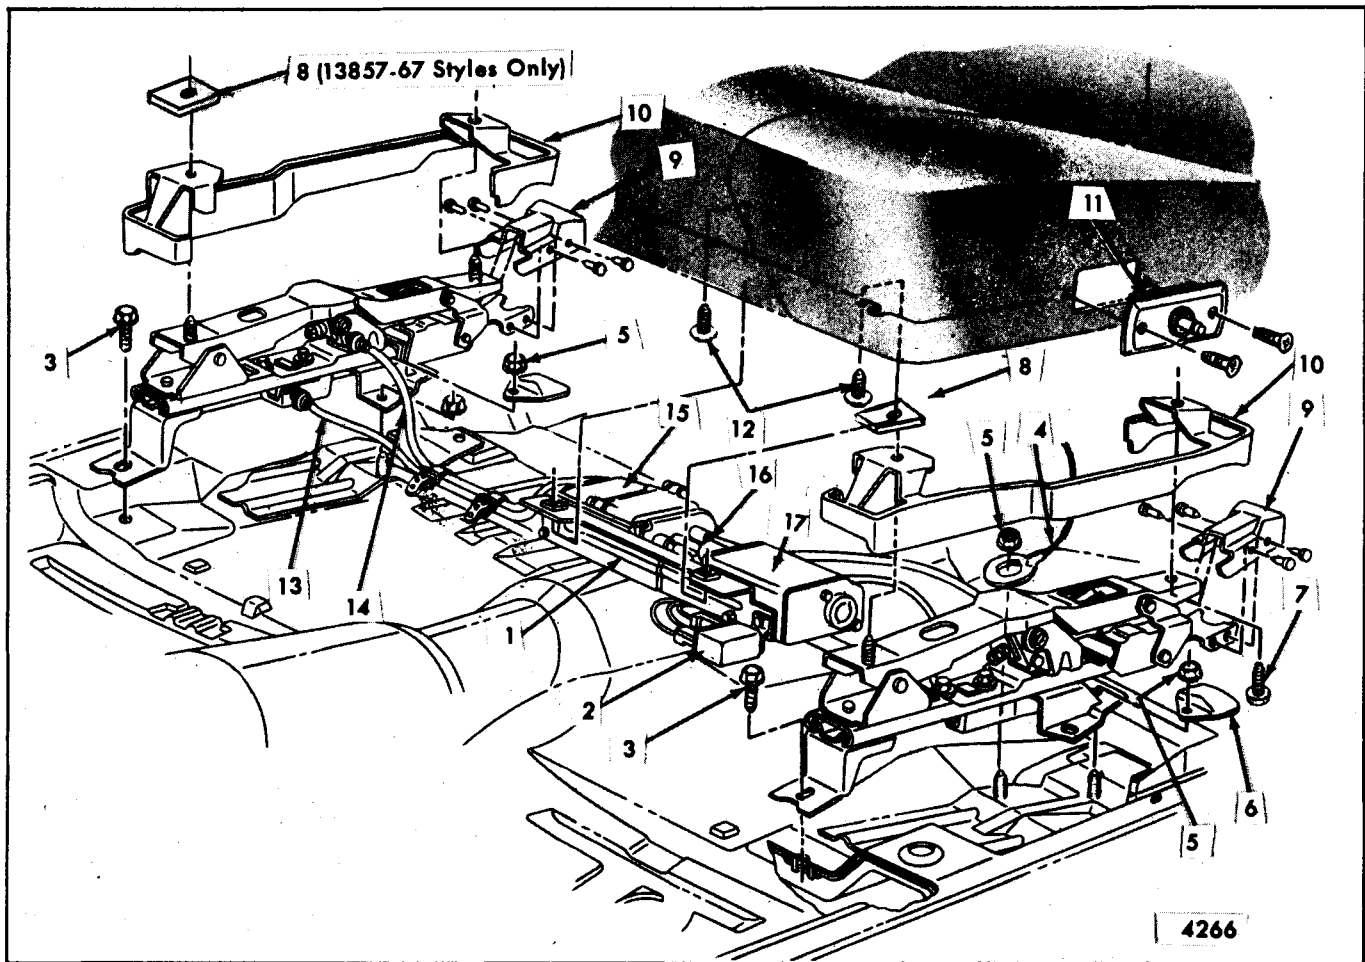

Fig. 14-14-Front Seat Adjuster - Power 4-Way - "A" Body Full Width Seat
3. Remove screws securing motor and transmission support to seat bottom (see Fig. 14-14).
2. Remove seat adjuster-to-seat bottom frame front and rear attaching bolts on side affected (Fig. 14-14).
3. Remove screws securing horizontal and vertical cable end plate on side of transmission from which cables are being removed and remove cables from seat assembly (Fig. 14-14).